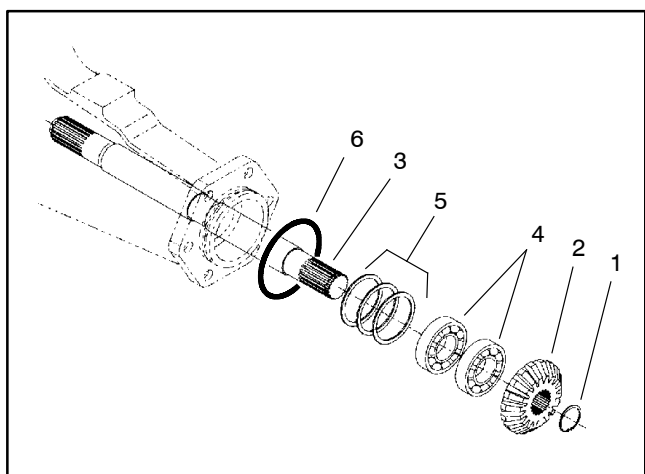

Figure 31
3. Remove the retaining ring and bevel gear (Fig 31).